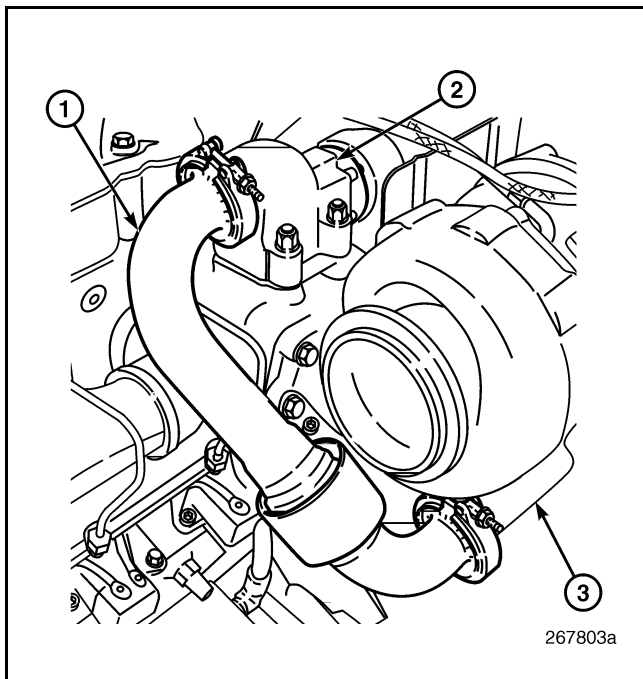

Figure 431 — EGR Gas Hot Tube, Installed
1. Install **new** seals in the flanges at each end of the EGR hot tube. Place the hot tube in position between the EGR valve and cooler (Figure 431). Install **new** T-bolts and nuts in the clamps and tighten to specification, 110 lb-in (12.4 N•m).